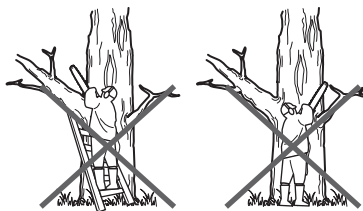

Fig.23
8. Do not operate the product with your arms fully extended or attempt to saw areas which are difficult to reach, or while on a ladder. Never use the product above shoulder height (Fig. 23).